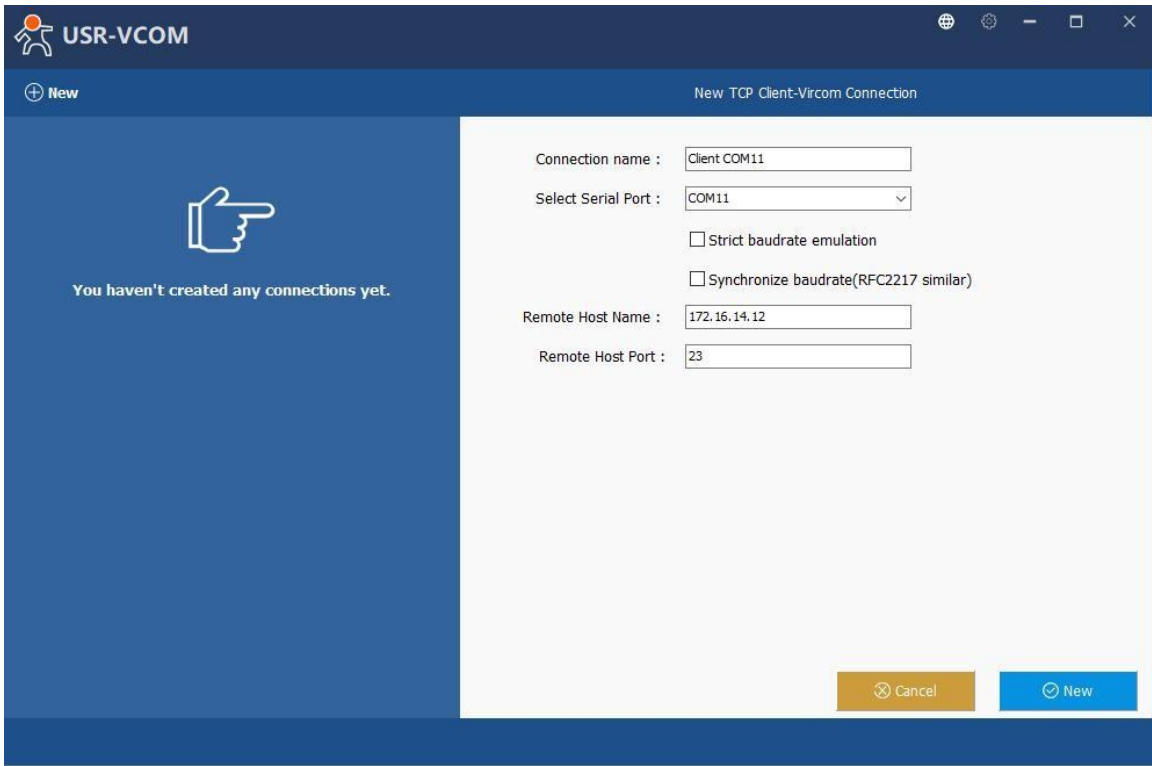

Fig.72 Virtual COM port mapping
3. After selecting the virtual COM ports, please enter the IP Address of the serial device server with the specified Port Number. The Port Number here is the Local Listening Port for the serial device server which is specified in the Local Port field of Fig.72